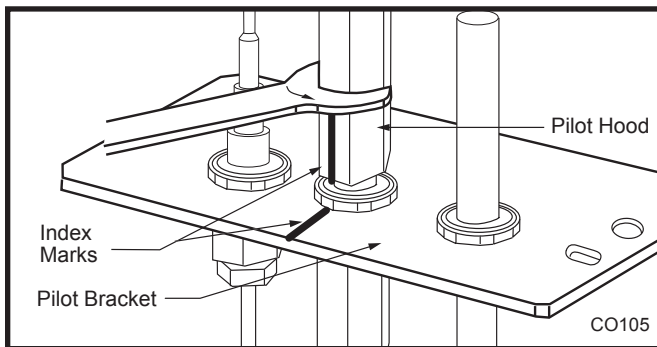

Fig. 56 Remove pilot hood. (Your pilot may have a different appearance.)
- Loosen pilot hood by turning counterclockwise using a 7/16" wrench. (Fig. 56) **NOTE:** You may use penetrating oil to prevent pilot hood threads from seizing up.